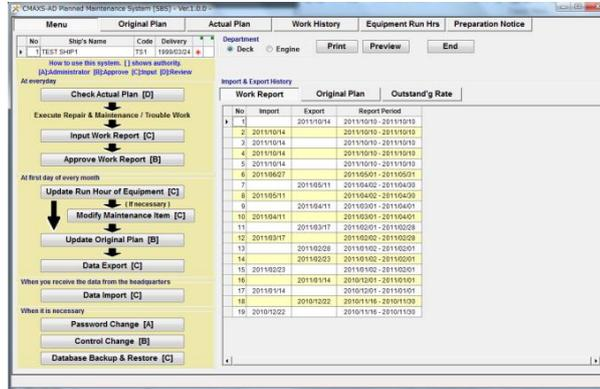

Fig.16-4 Menu Screen
- (1) On the “Menu”screen(Fig. 16-4) Select “Outstand’g Rate” in “Import & Export History” area.